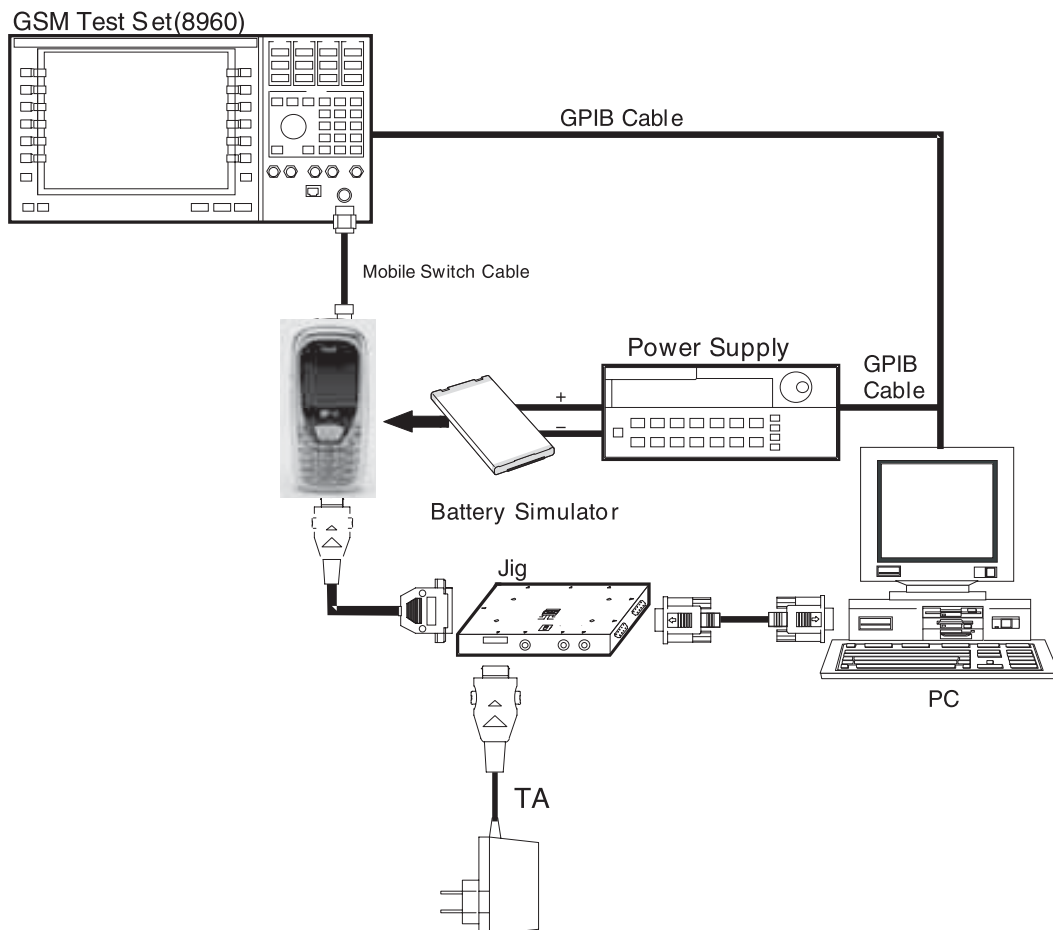

Figure 6-2 EQUIPMENT SETUP
1. Connect as Fig 6-2(RS232 serial cable is connected between COM port of PC and MON port of TEST JIG, in general)